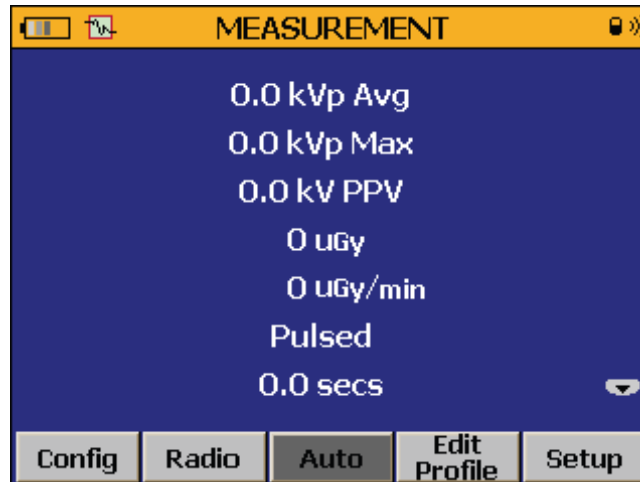

Figure 2-6. X-ray Detector Measurement Screen
Connect and set up the X-ray Detector for a measurement. See the How to Setup the System section above for connection and set up instructions. The **MEASUREMENT** screen in Figure 2-6 shows in the Display.
1. In the **MEASUREMENT** screen, use \leftarrow or \rightarrow to highlight the 2nd button from the left. The name on this button shows the measurement mode selection. In Figure 2-6, the button is named **Radio** which shows the Detector is set to the Radio Measurement mode. The **MODE SETUP** screen in Figure 2-7 shows in the Display.